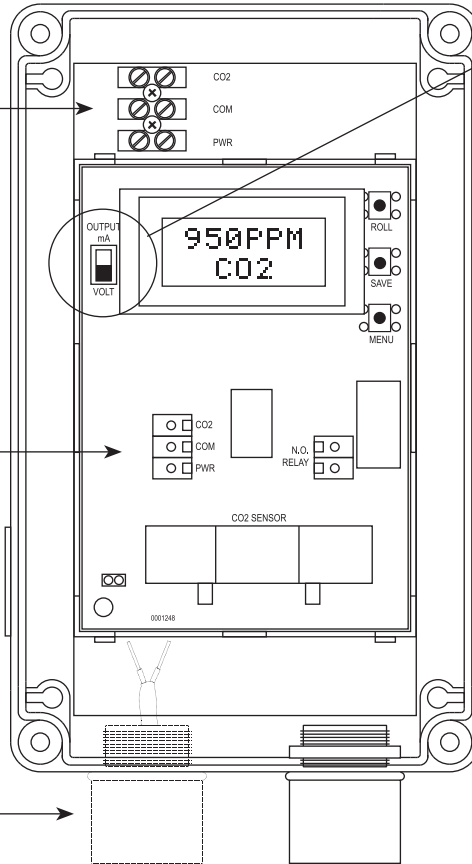

Figure 6
• Select desired signal output type by sliding the Output switch into desired position as shown in Figure 6. The factory default is "VOLT" and set to 0-5 Vdc. It may be changed to 0-10 Vdc during program set up. The "mA" setting provides a 4-20mA output.